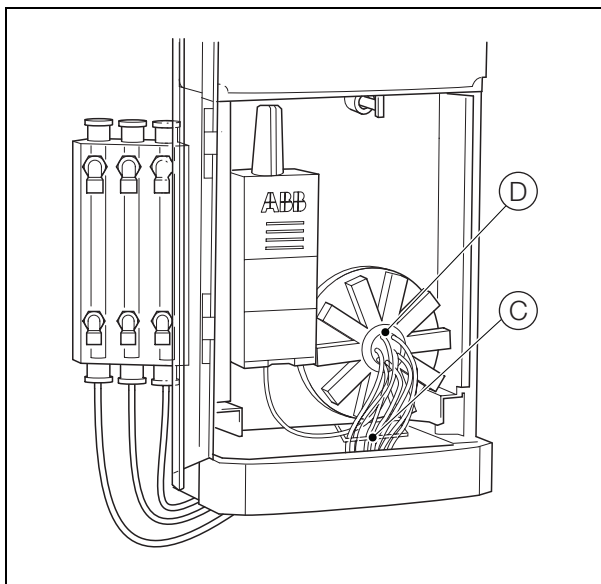

Fig. 12.5 Replacing the Waste Tube
2. Referring to Fig. 12.5:
- Remove the tube from clip (C) and discard.
- Route the new waste tube as noted in step a and connect it to the waste valve connector (D) on the valve manifold.